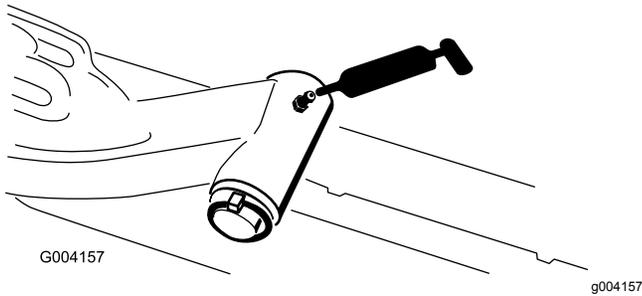

Figure 67
- Lift-arm-pivot shaft (1 each) (Figure 67)